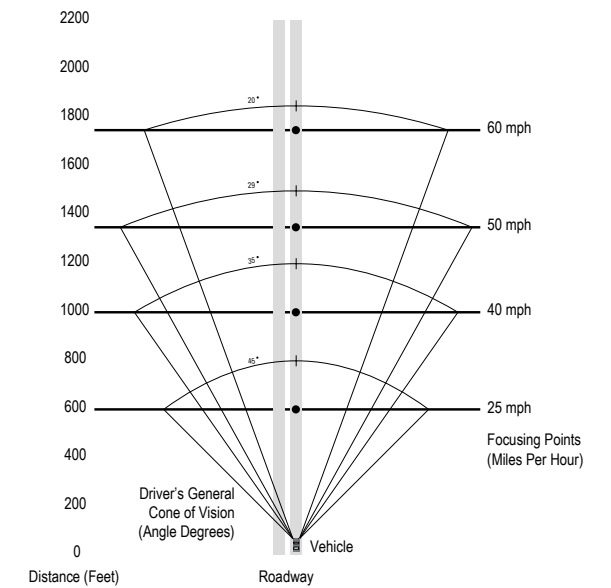

Figure 2.2.3
A pedestrian sign's location will often dictate the range of acceptable visibility to the viewer in order for them to quickly and effectively interpret the information. If the viewer is given an appropriate distance to comprehend the messaging, hesitation will be reduced and informed decisions will be made regarding changing direction or continuing on the same pathway. In a fast paced (often congested) environment such as an airport, a conservative pedestrian viewing distance of approximately 25 feet to each inch of capital letter height should be used when specifying wayfinding signage (see Figure 2.2.3). However, all text on pedestrian wayfinding signage must always follow all sizing and legibility requirements as established by the latest editions of the ADA and Federal, State and Local Accessibility and Code Standards.
There are several factors that affect the legibility of vehicular messages, including (but not limited to) the sign's height above finished grade, lateral spacing from the roadway, number of messages, overall size of the sign (including support structure) and the speed at which a vehicle is traveling. As a result, when designing new or updated vehicular wayfinding signage, *a set of general design guidelines should be used when determining a conceptual reference point for adequate message size (see Figure 2.2.3).
**NOTE: The information shown in Figure 2.2.3 is based on typical and generally accepted wayfinding industry standard practices (equations & table provided by the United States Sign Council, USSC), and is only a basic conceptual design reference. These are general "rule-of-thumb" guidelines and should only be used as an initial starting point when determining vehicular wayfinding signage legibility. This information should not be construed as absolute or final. All vehicular wayfinding signage legibility must meet all requirements as established within MUTCD and TXDOT signage design standards.*